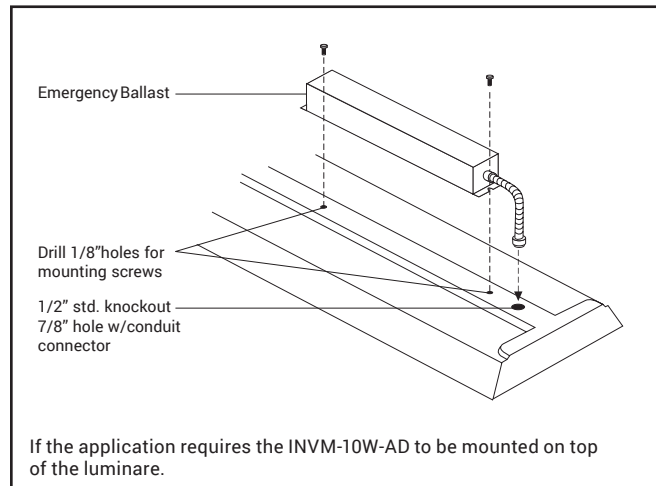

Figure 1
4. See Figure 1, for typical installation and select appropriate mounting method.